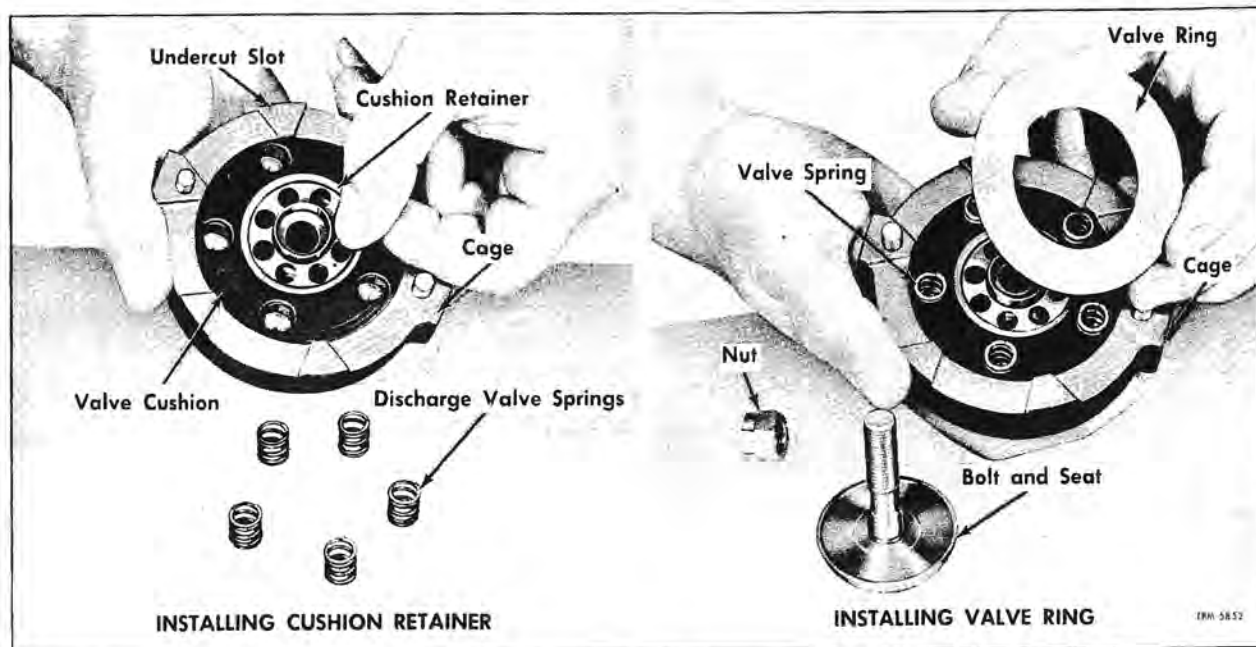

Figure 92—Building Up Discharge Valve Assembly
1. Place valve cushion (37) into discharge valve cage (40), making sure that outer edge of cushion is tucked into undercut slot in cage. Align holes in cushion with spring pockets in cage.
2. Press valve cushion retainer (41) into place (left view, fig. 92), then position discharge valve springs through cushion and into cage spring pockets.
3. Lay discharge valve ring (36) over springs as shown in right view, figure 92. Insert seat (43)